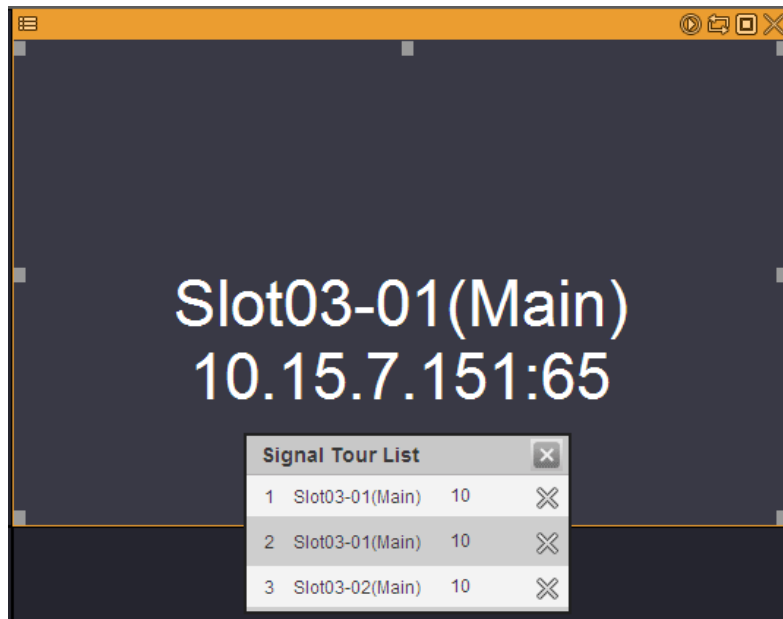

Figure 3- 5
Step 4. Repeat the operation until signal tour is complete. See Figure 3- 5.